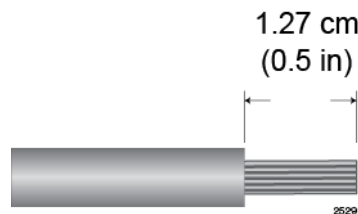

Figure 115. Stripping the Stranded Grounding Wire
1. Prepare an adequate length of stranded 10 AWG grounding wire by stripping it as shown in Figure 115.